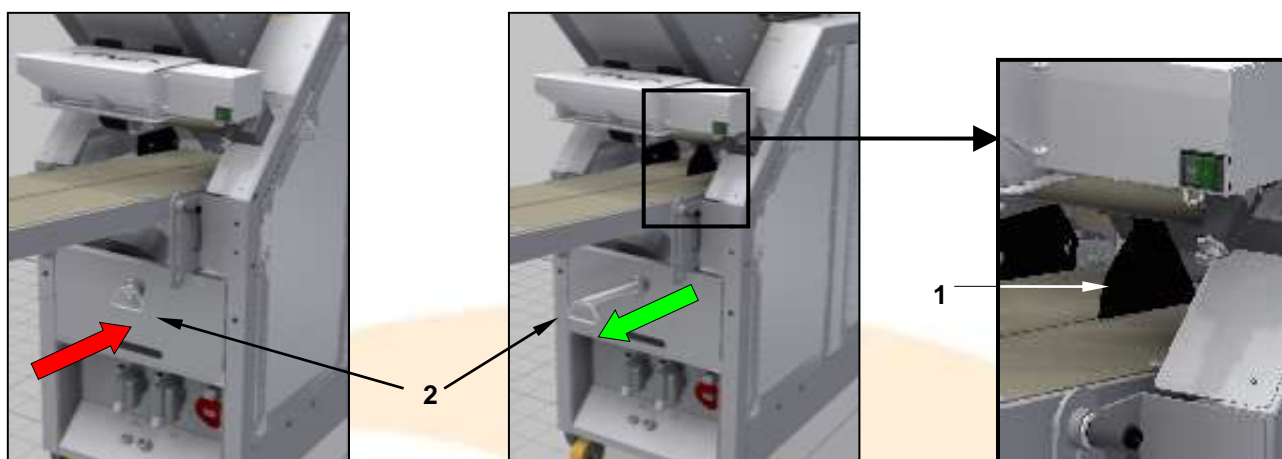

Figure 22 - Divider for two rows (Calybra 1.5 - 2.5)
With reference to Figure 22, move the divider ref. 1 up and down by pulling out and pushing in the rod with the hand as far as the end run (where there is mechanical stopping device) ref. 2; the divider prevents the two pieces of dough produced in the same cycle from sticking to each other in case of double row piecing. Withdraw the divider to select the single division option.